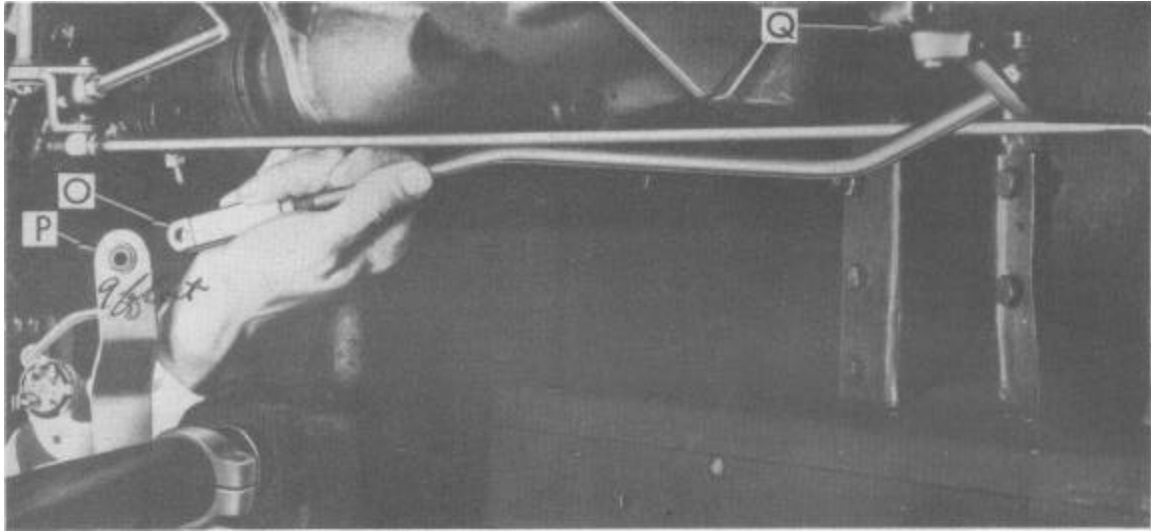

Figure 7
1. Disconnect the transmission shift rod (O) at the manual control lower lever (P) Figure 7.
2. With the transmission shift rod (O) disconnected, place transmission shift lever (Q) (at transmission) in the reverse position by pushing the transmission shift rod (O) rearward as far as it will go (reverse position), Figure 7. Next pull shift lever rod (O) forward one detent, placing transmission shift lever (O) in "LO" position.